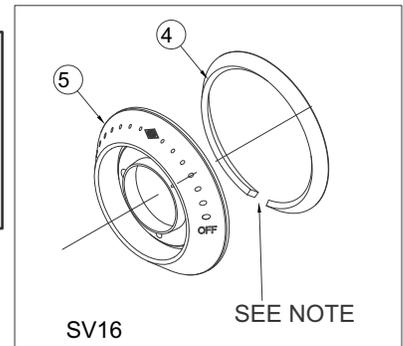

FIGURE 4
8. Prior to installing valve trim, attach escutcheon gasket **4** to the back of escutcheon **5** and gaskets **3** and **4** to the back of escutcheon **6** by removing adhesive protection film and attaching as shown in Figure 4 and 5.